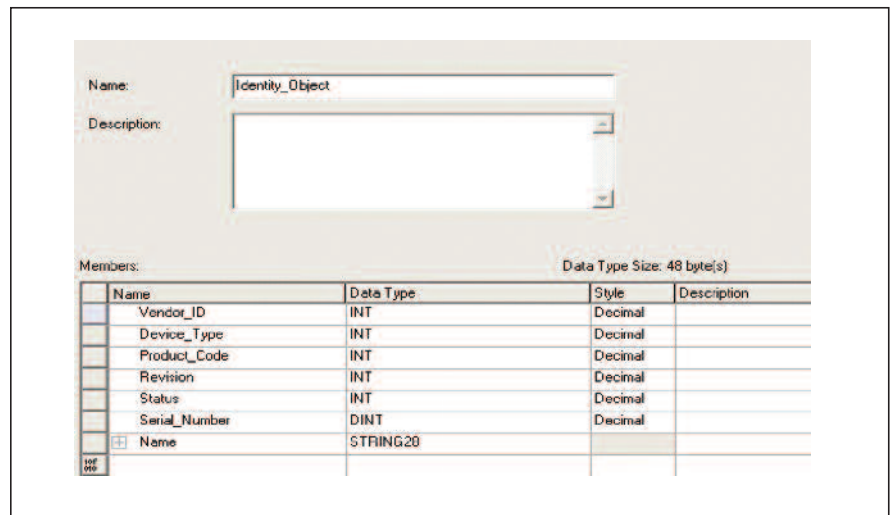

Figure 10 UDT (User Defined Data Type) with Identity Object data
The creation of a user-defined data type (UDT) that holds data relevant to the device (Figure 10) serves as the basic principle behind this technique. The AOI code populates the UDT. Implicit data from the input channel can be easily and directly copied to the UDT, while placing explicit data in a UDT is more complex. Selecting appropriate element names within the UDT presents device information in a format appropriate for that device. The AOI provides the opportunity to process incoming data from the EtherNet/IP object and present it in a meaningful format to the user. Similarly, output information can be copied from a UDT to the output channel, and parameter changes in the device can be made through the “Set Attribute Single” service.
3. **Create UDTs. Replicate the structure of the input and output channel, as well as relevant objects as necessary (Figure 10).** Combining several UDT instances into a single structure can aid replication and ease integration with visualization tools.